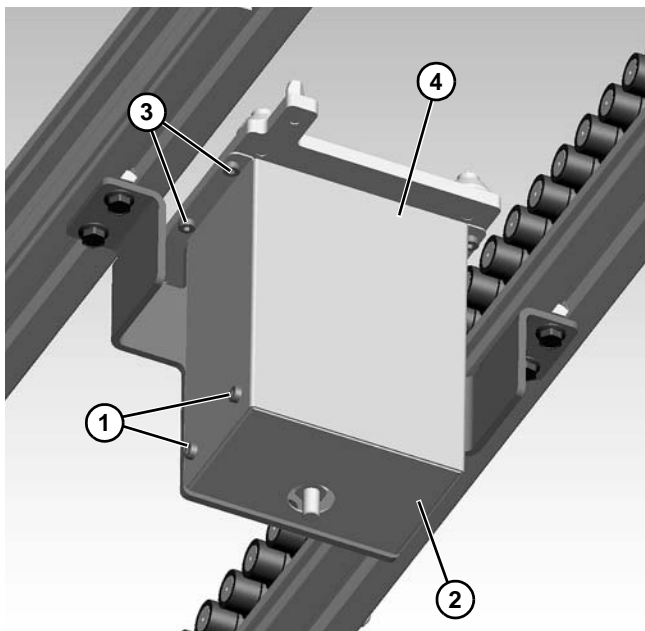

Figure 18
2. For pallet sizes 240 x 240 and larger, remove two screws (Figure 18, item 1) on each side of the cover (Figure 18, item 2), and four screws (Figure 18, item 3) from the top of the guard (Figure 18, item 4).